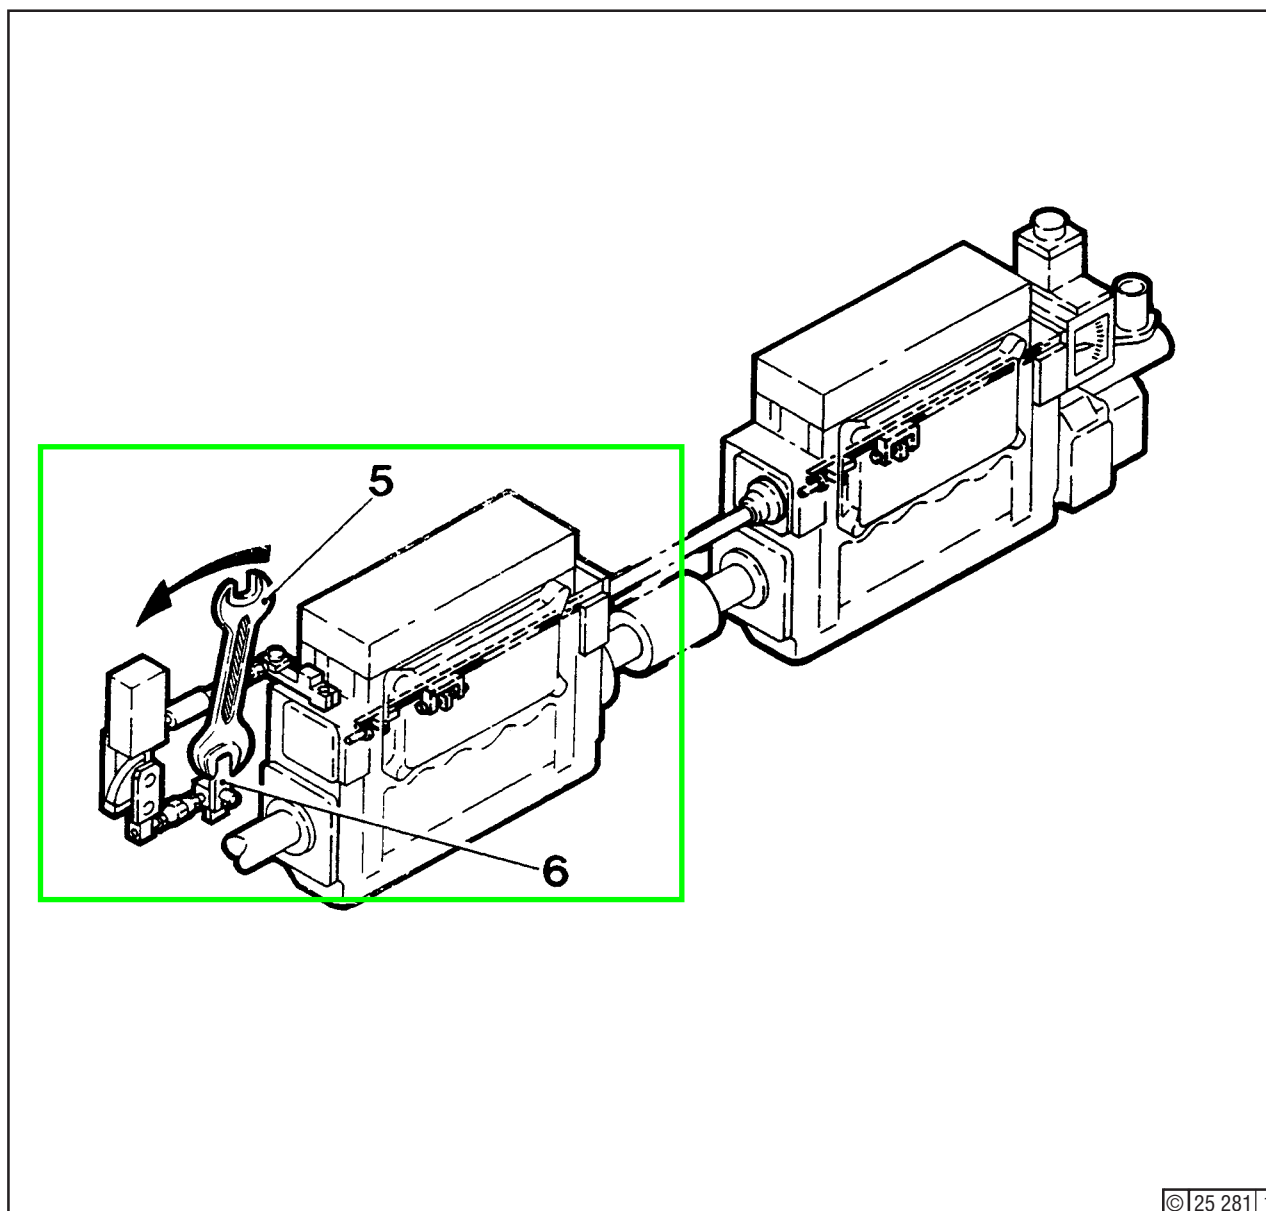

Fig. 3
Furthermore, the engine can be shut down by using an open-end spanner (5) at the lever of the governor shaft (6) which is to be turned in the direction of the driving end. This method can be applied, provided that the governor linkage is set correctly (see Fig. 3).